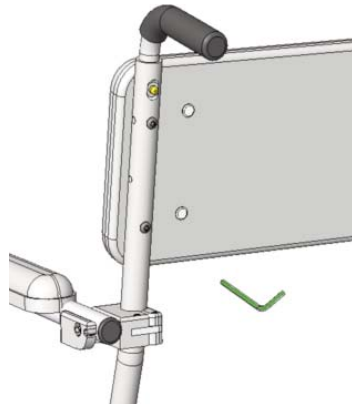

Figure 6
**F** Turn the chair right side up and install the backrest assembly. Slide the two backposts into the back of the seat frame and tighten the two socket head cap screws using the 1/4" Allen wrench (Refer to Figures 4 & 5). Also tighten the four button head capscrews that attach the back cushion to the back posts using the 5/32" Allen wrench (Refer to Figure 6).